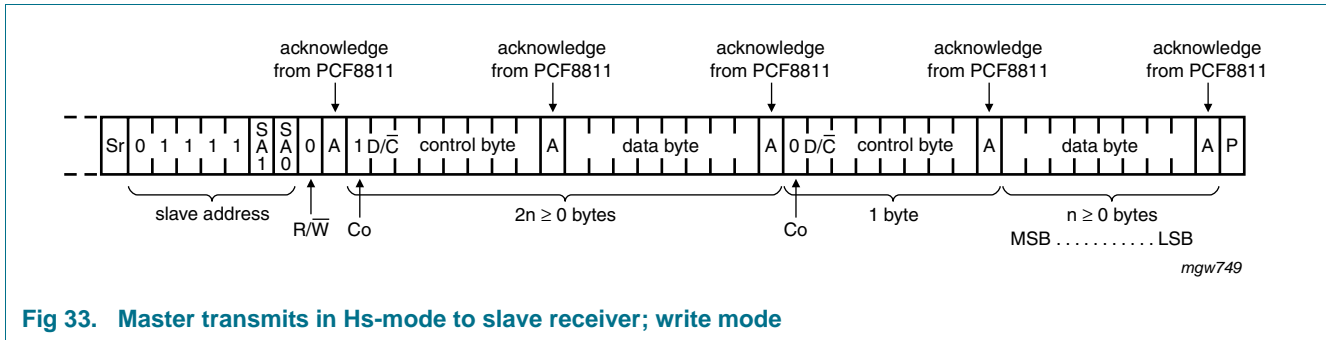

Fig 33. Master transmits in Hs-mode to slave receiver; write mode
A write sequence after the Hs-mode is selected is shown in Figure 33. The sequence is initiated with a START condition (S) from the I²C-bus master which is followed by the slave address. All slaves with the corresponding address acknowledge in parallel, the remainder will ignore the I²C-bus transfer.
After the acknowledgement cycle of a write (\overline{W}), one or more command words will follow which define the status of the addressed slaves. A command word consists of a control byte, which defines continuation bit Co and $\overline{D/C}$, plus a data byte; see Figure 33 and Table 10.